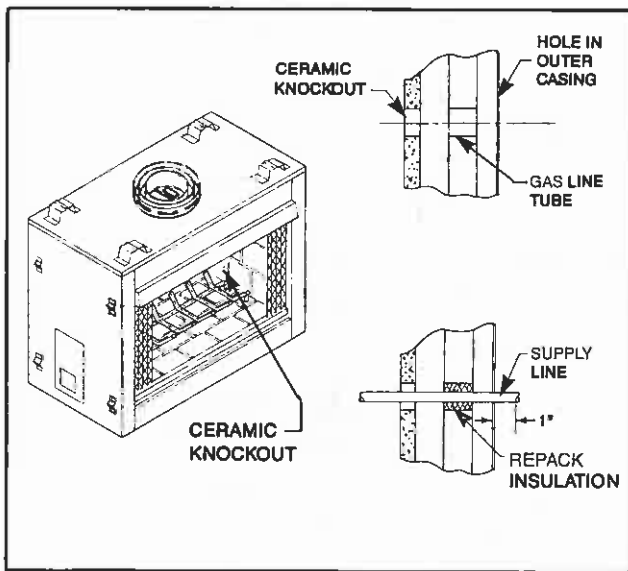

Fig 24. Install iron pipe gas line through provided hole in right side of fireplace.
NOTE: The gas pipe should not come in contact with any wood structures until it has reached a point at least one (1) inch away from the fireplace side. (See Fig. 24 for installation clarification.)